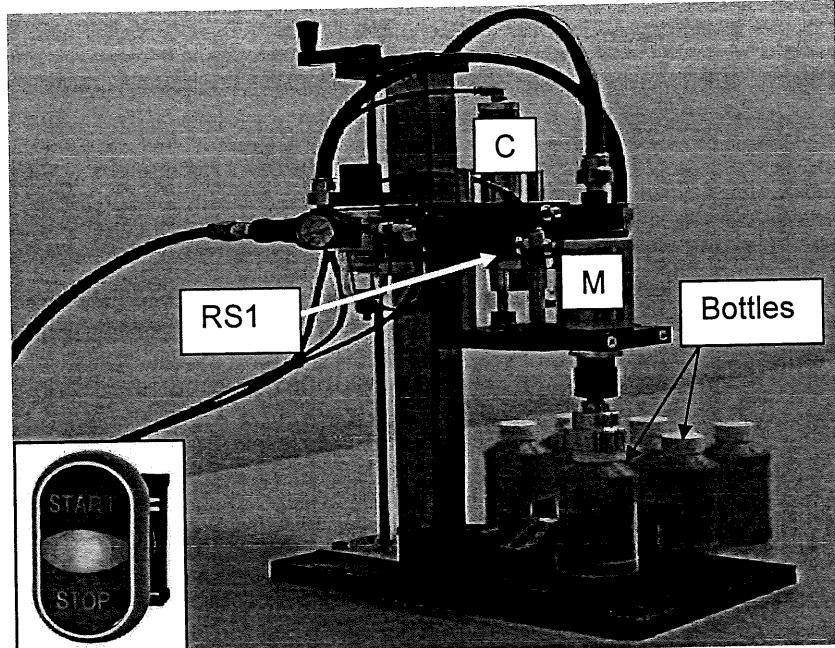

Figure 1
- b) Figure 1 shows a bottle cap tightening machine. When the start switch is activated, Cylinder (C) will extend. Pneumatic motor (M) is used to rotate the bottle cap to tighten the bottle during Cylinder (C) extends fully, confirmed by reed switch (RS1). This pneumatic motor is connected to the shaft cylinder (C). When the Stop switch is pressed, all machine operations will stop immediately.